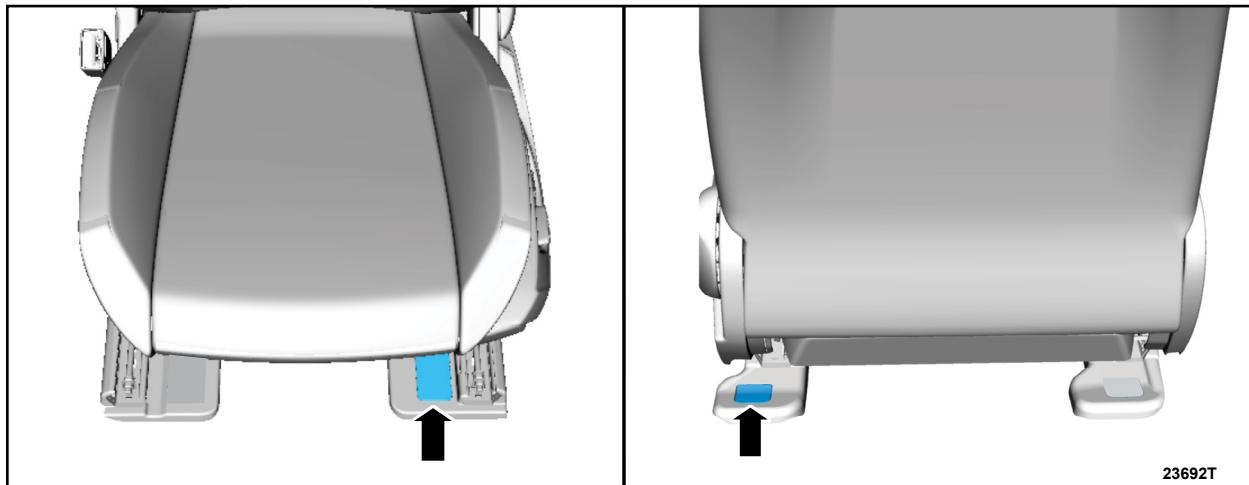

FIGURE 10
18. On both sides, remove the front seat outboard shield bolt caps. See Figure 10.
21. On both sides, install the front seat outboard shield bolt caps. See Figure 10.